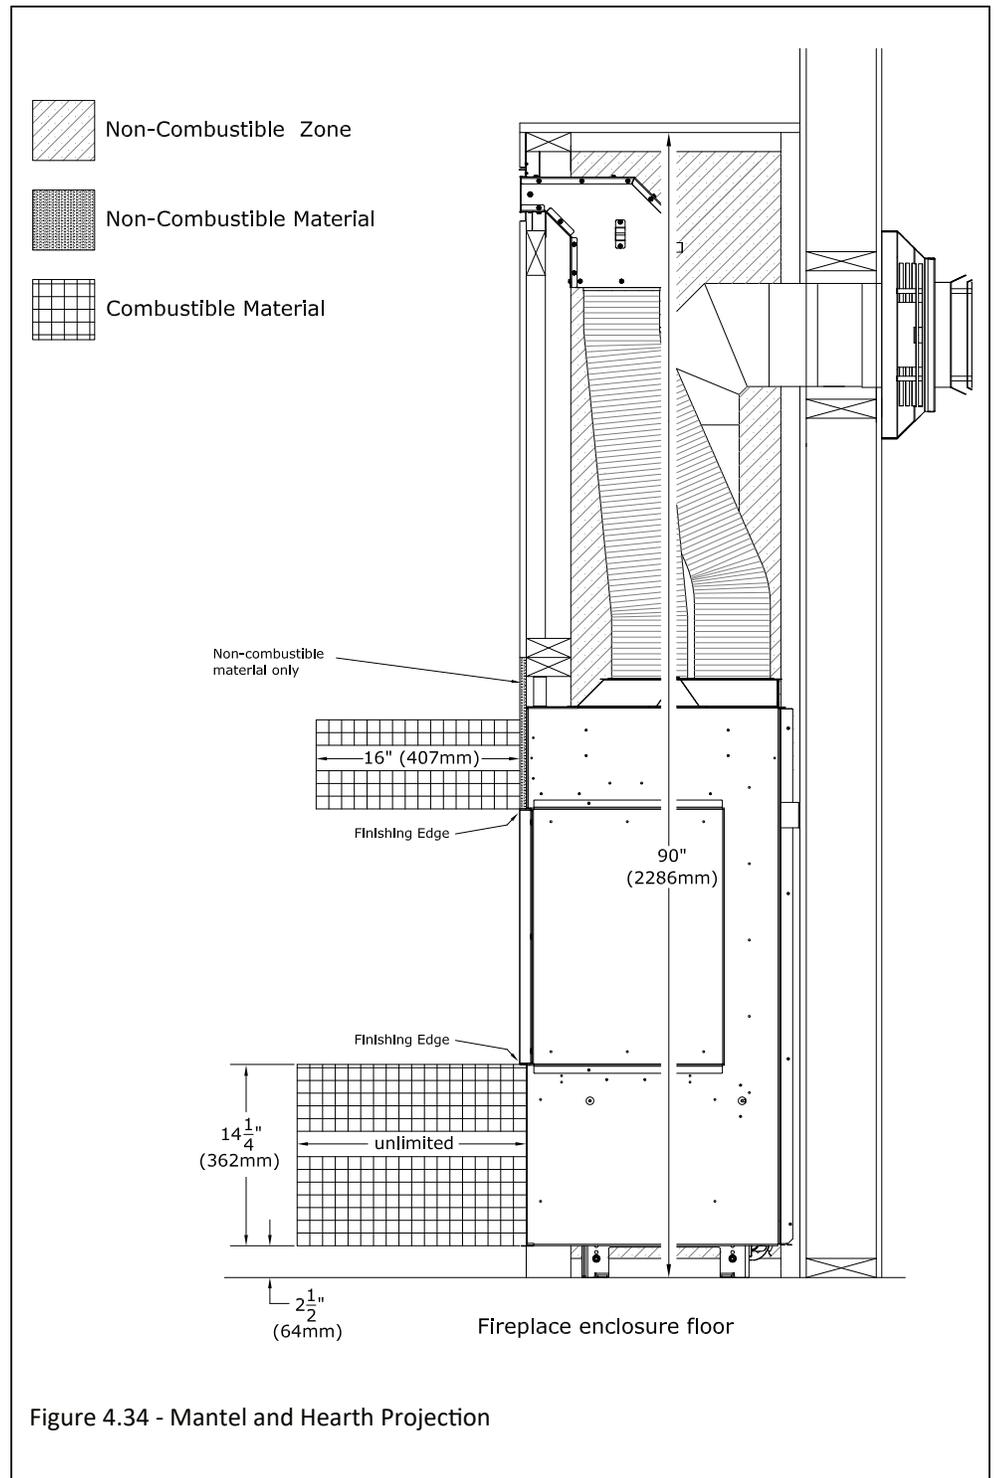

Figure 4.34 - Mantel and Hearth Projection
- **Combustible Mantel Projections:** A maximum of a 16" (406mm) mantel can be installed flush at the top finishing edge. See Figure 4.34.
- **Combustible Hearth:** Combustible hearth can have an unlimited projection. Hearth can be raised flush to the bottom finishing edge. See Figure 4.34.